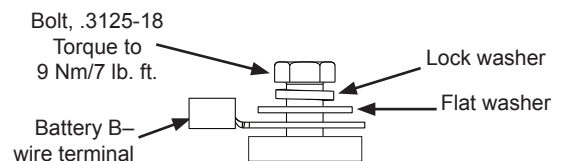

Figure 3: B- Terminal Hardware Stacking Order
7. Connect vehicle B- cable to alternator B- terminal. Install B- hardware in stacking order shown in Figure 3. Torque to 9 Nm/7 lb. ft.